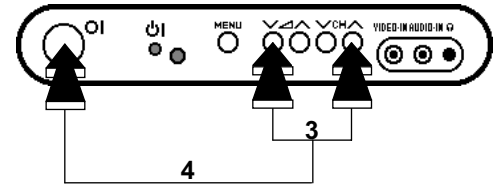

Figure 1
3. Press the volume down and channel up buttons together. See Figure 1.
4. Continue pressing the volume down and channel up buttons while turning the mains on using the mains switch. See Figure 1.